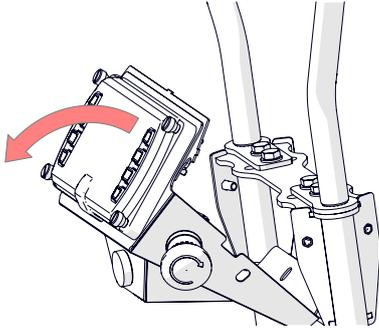

Fig.22E - Gently lower the whole console cover, supported by the electrical wires (wiring not shown).
4. Locate the bottom console cover. Remove the 2 x M5 screws from each side [slotted screwdriver] (Fig.22D). Gently lower the top console cover (with display screen and wiring), and rest using the electrical wiring as support (Fig.22E).